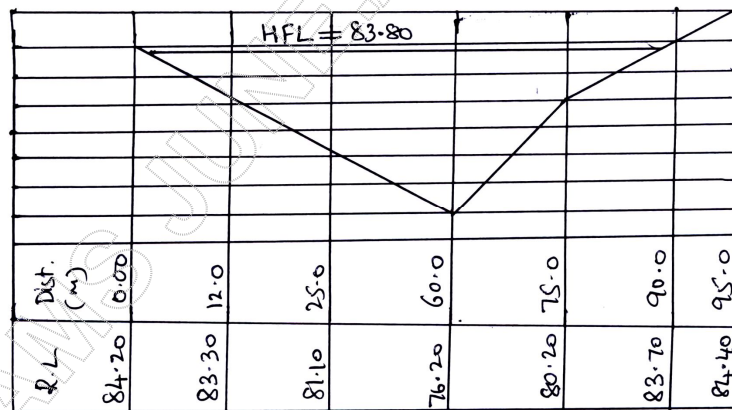

Fig. Q1(b)
b. The cross section of a stream is shown in Fig.Q1(b). The average bed fall of the stream is 1 : 1600. Determine the maximum discharge. Take Manning's coefficient as 0.025 and HFL = 83.80.